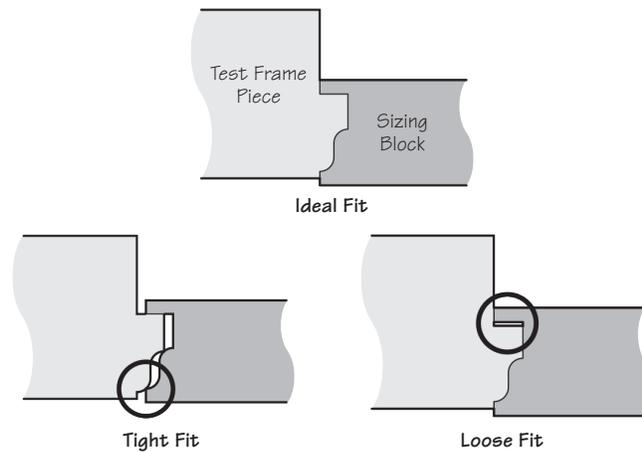

Figure 9: Testing the cutter spacing.
3. Use the sizing block to check the spacing of the cutters. (See **Figure 9**.) If the test piece is too tight or does not fit into the sizing block, shims between the cutters need to be removed. If the fit is too loose, more shims must be added. Shims can be added above or below the bearing. Repeat the test cut until a satisfactory fit is achieved. Make a note (on the sizing block) of the number (or thickness) of shims used for future reference.